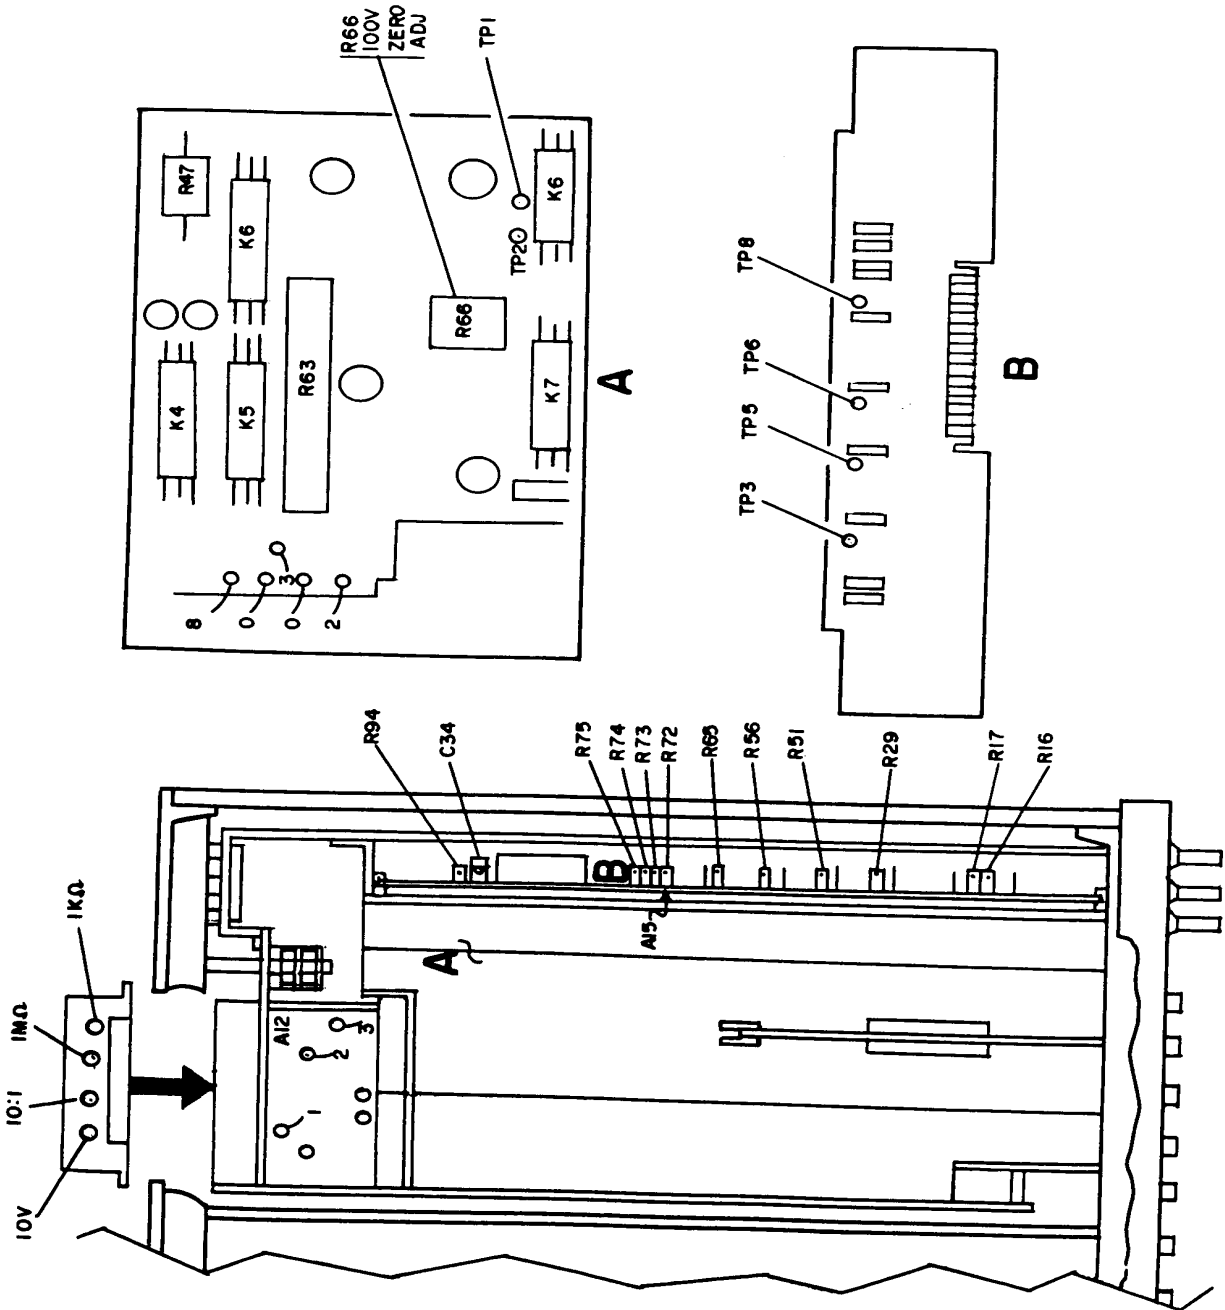

Figure 1. Test instrument - top view.
g. Set RANGE to 100 and AUTO CAL to on. If TI does not indicate .0000 V ± 1 count, perform (1) through (8) below.
(1) Remove top outer cover and top inner cover to gain access to circuit board A10.
(2) Set RANGE to 10 and AUTO CAL to off.
(3) Adjust digital voltmeter (A7) to measure dc volts.
(4) Connect low input of digital voltmeter to TI LO INPUT terminal (inguard chassis) and high input to A10 TP1 (fig. 1), using leads and probes (B5 and B7).
(5) Adjust A10 R66 (fig. 1) until digital voltmeter indicates 0 (zero) V ± 50 μ V.
(6) Disconnect digital voltmeter.
(7) Set RANGE to 100 and AUTO CAL to on. TI will indicate 0.0000 V ± 1 count.
(47) Set dc voltage standard STANDBY/RESET to STANDBY and disconnect from TI.
b. Adjustments (fig. 1)